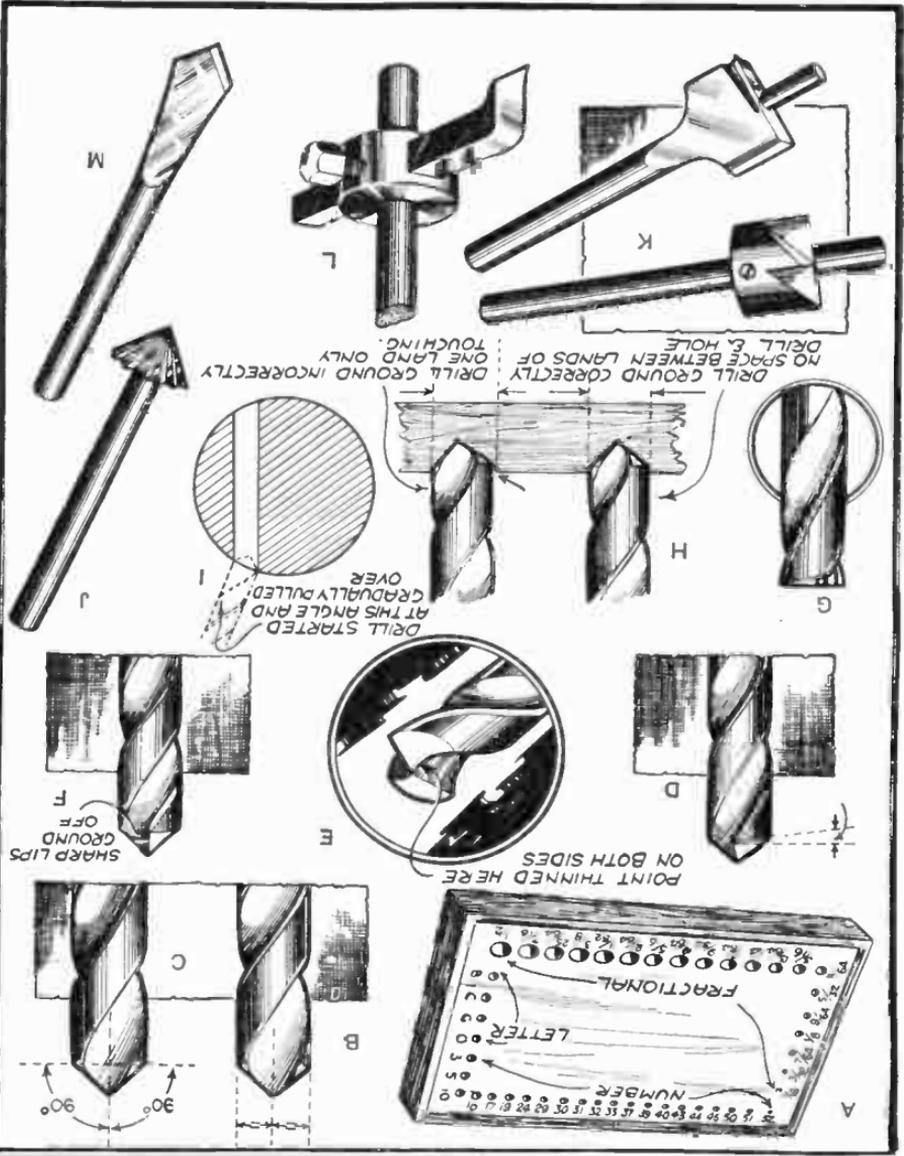

FIG. 176.—Various Hints about Drills and Drilling.
These drills, and a $\frac{7}{16}$ -in. and $\frac{1}{2}$ -in. diameter and possibly a few extra fractional sizes below $\frac{1}{2}$ in., should complete the range required. To keep them together a drill stand might be made as shown in Fig. 176, A.
- (1) That the point is central.
- (2) That the angles are equal.
- (3) That the backing off is equal (see Fig. 176 B and C).
Where any appreciable thickness of metal has to be drilled it is a good practice to thin the point of the drill, that is, where the same is unduly thick. This will make the drill cut faster, and also less pressure will be required on the drill. Fig. 176 D and E shows how to do this.
It is very noticeable, when drilling brass, aluminium, or ebonite, how the drill is inclined to "bite" into the material. A remedy for this is to grind the face at the cutting edges slightly to reduce the cutting rake (Fig. 176 F).
To produce flat-bottomed holes, such as are required to accommodate the heads of cheese-headed screws, the hole or holes are first drilled to take the shanks of the screws and opened out with another drill to take the head. This drill is then ground off flat and backed off, as seen in Fig. 176 G, and the drilling continued with it to the correct depth.
and the lips have started cutting, both lands (the narrow spiral portions against each flute) should be in contact with the edge of the hole (Fig. 176 H); if as shown in Fig. 176 I (right), it indicates that either the point is out of centre or that the angles are unequal.
Holes requiring to be drilled at an angle with a square face or through the edge of a piece of round material as shown in Fig. 176 I should be started by commencing to drill square with the work until a hole about $\frac{1}{8}$ in. deep (full diameter) has been drilled, and then gradually bring the drill over to the desired angle, keeping the drill cutting slightly whilst so doing. Holes that have started slightly out of position may be pulled over in this manner.
Rose cutters, such as that illustrated in Fig. 176 J, are used for countersinking; resharpening when necessary is done with a small oilstone.
Two types of counterbores for larger holes are shown in Fig. 176 K. These are used by first drilling a small hole for the pilot to work in,
Large holes in sheet metal or circles from ebonite for formers can be cut out with the fly cutter shown in Fig. 176 L. A centre hole is also necessary in this case to accommodate the pilot, and the cutter is adjustable to suit different diameters.
To deal with a hole of a special size, when the right-sized drill is not available, a flat drill may be made to overcome the difficulty. A piece of silver steel smaller in diameter than the hole required (if the hole is $\frac{1}{2}$ -in. diameter $\frac{1}{8}$ -in. dia. silver steel will be about right) is heated at the end in the gas to a dull red and flattened out with a hammer. After allowing it to cool slowly the steel is carefully filed up to the shape shown in Fig. 176 M, the width of the point being made equal to the diameter of the